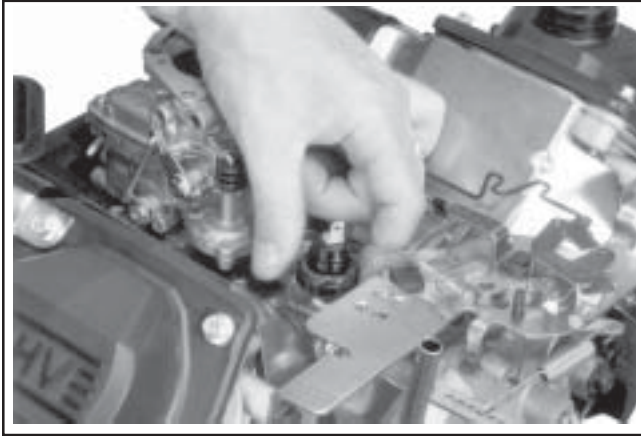

Figure 9-29. Removing Oil Sentry™ Switch from Breather Cover.
2. Remove the Oil Sentry™ switch from the breather cover. See Figure 9-29.